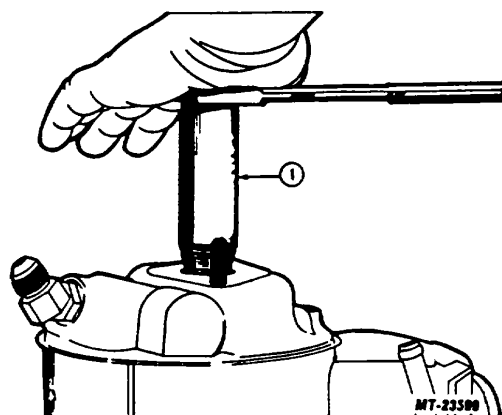

Fig. 9 Setting Seal Remover Tool
2. Place Seal Remover SE-2839 over pump shaft. Apply downward pressure on top of tool and screw tool into seal material until firmly seated, Figure 9.